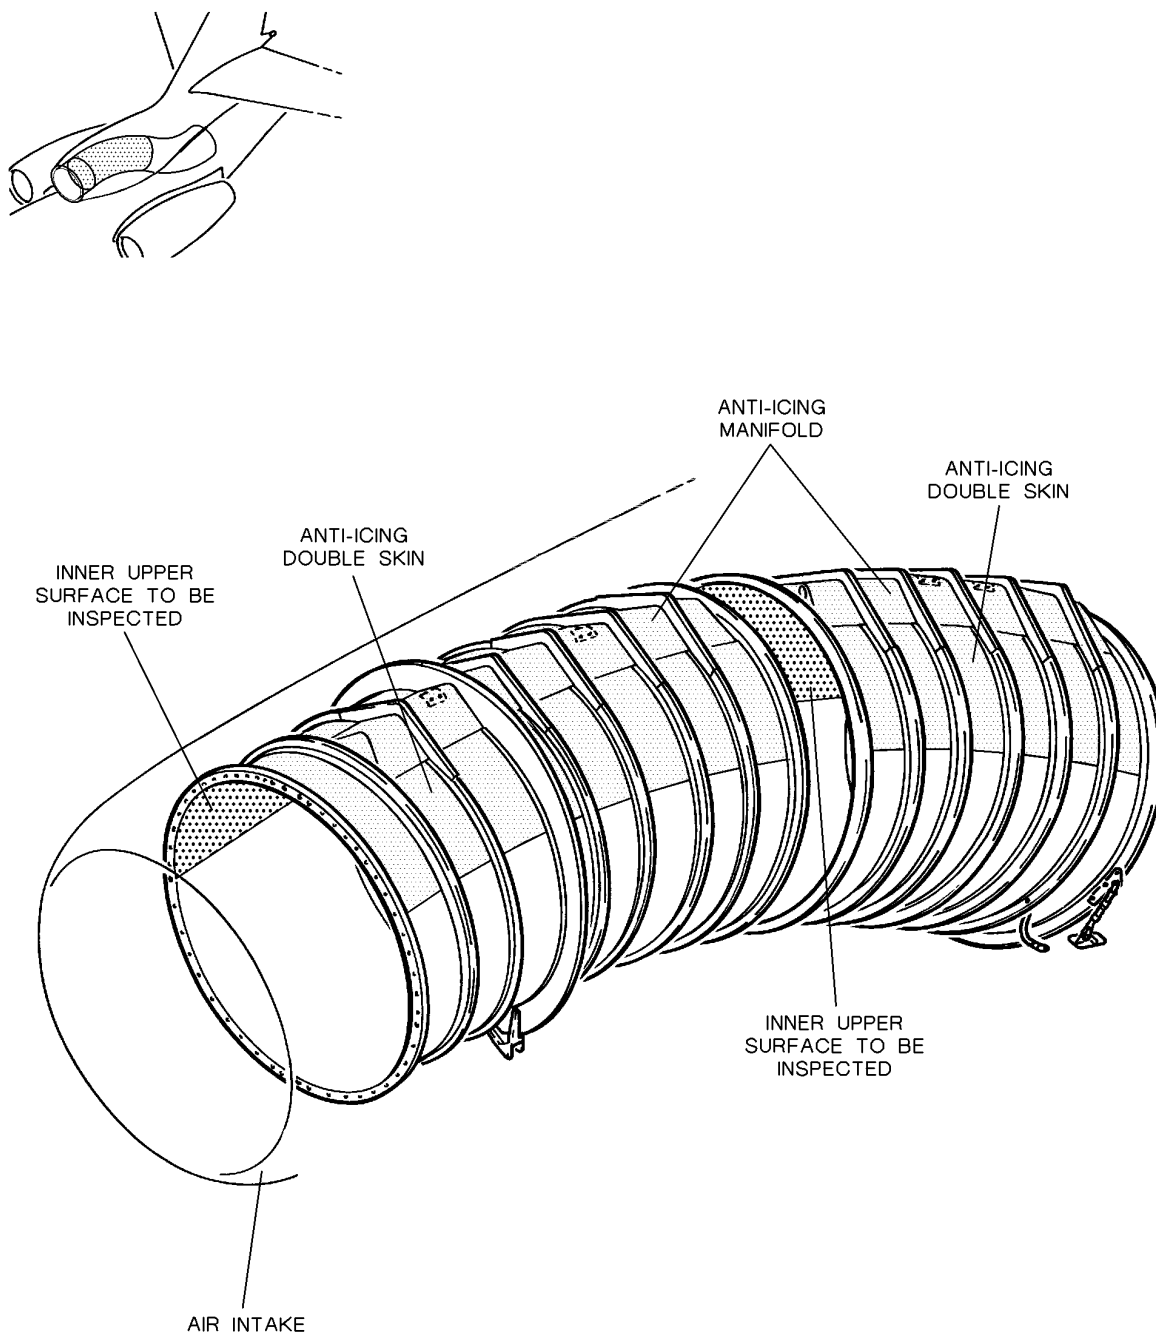
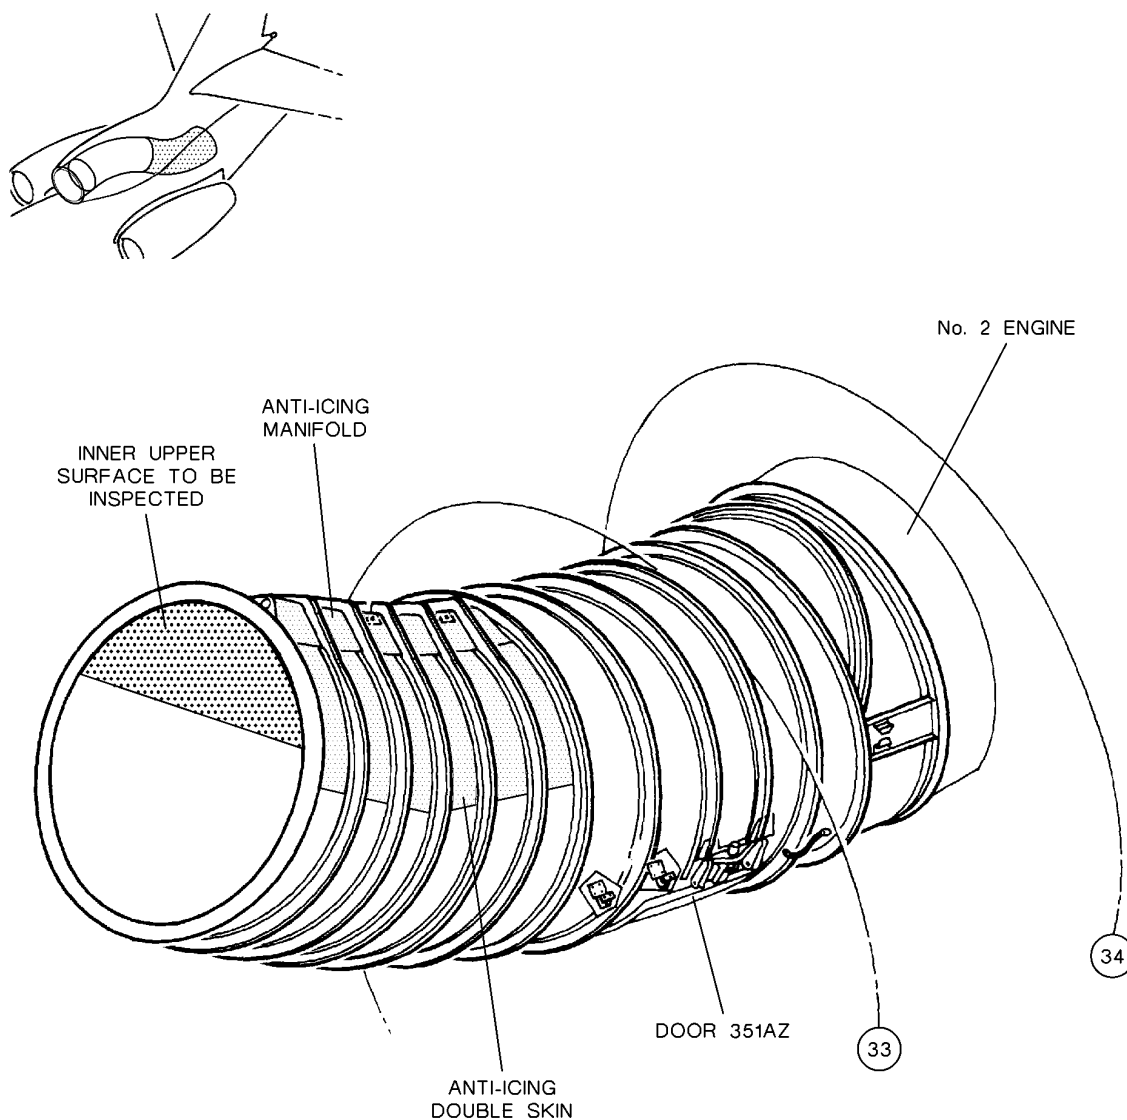

Figure 1: Visual Inspection of Engine No. 2 S-duct
Figure 2: Visual Inspection of Engine No. 2 S-duct
Refer to fig. 1 and fig. 2
- (1) Carefully inspect the inner upper section of the S-duct below the anti-icing manifolds and the anti-icing double skins (fig. 1).
- B. Visual inspection through door (**351AZ**) (**fig. 2**).
- (1) Carefully inspect the inner upper section of the S-duct below the anti-icing manifolds and the anti-icing double skins, proceeding in the same way as for the inspection through engine 2 air intake.
- (2) On the inner skin paint coat: